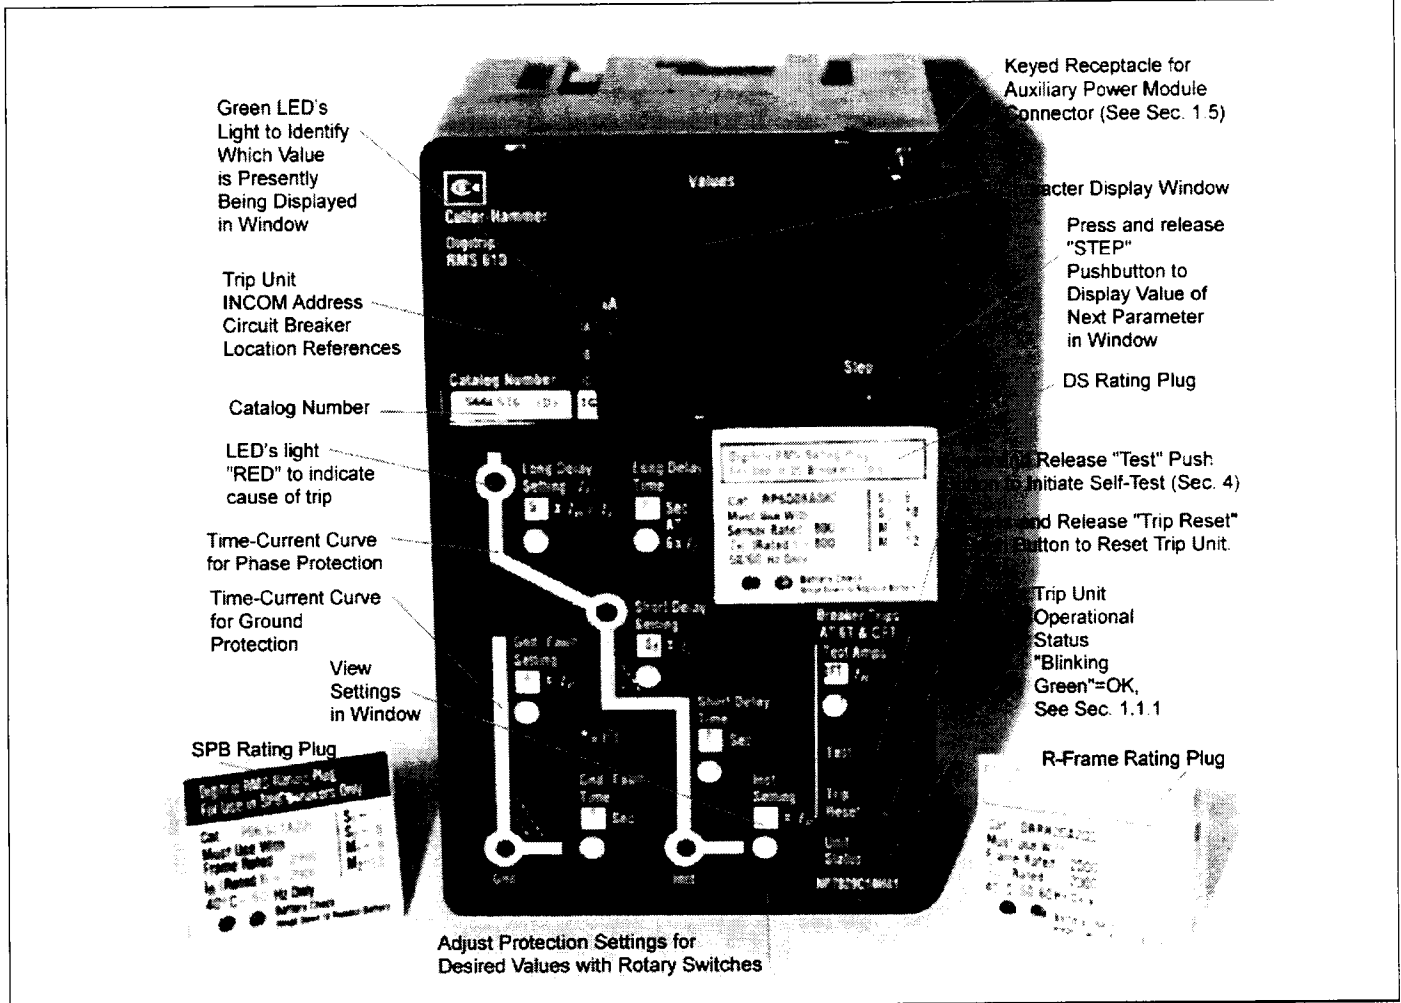

Fig. 1 Digitrip RMS 610 Trip Unit Type LSIG with Rating Plug
The Digitrip RMS 610, illustrated in Fig.1, is a Trip Unit, suitable for use in types DS and DSL Low-Voltage AC power circuit breakers and type SPB Systems Pow-R circuit breakers and Series C R-Frame molded case circuit breakers. The Digitrip RMS 610 Trip Unit provides four basic functions:
The "Green" Light Emitting Diode (LED) in the lower right corner of the Trip Unit (Fig. 1) "blinks" once each second to indicate the Trip Unit is operating normally.
The LEDs, shown in Figs. 1 and 3.1 thru 3.6 on the face of the Trip Unit, light "RED" to indicate the reason for any automatic trip operation. As indicated in Figs. 3.1-3.6, each LED is strategically located in the related segment of the time-current curve depicted on the face of the Trip Unit. The reason for trip is identified by the segment of the time-current curve where the LED is lighted "RED", and shown by the "code" in the Display. Following an automatic protection trip operation, the external control power to the Power/Relay Module (See Section 1.4) will maintain the LED "RED" and will **continue** to send a **TRIP** signal to **LOCKOUT** the circuit breaker until the Trip Unit is **RESET**. The Digitrip RMS 610 Trip Unit can be **RESET** by pressing and releasing the "**TRIP RESET**" button. (See Fig. 1 lower right corner just above the "UNIT STATUS" LED.)
In the event that control power is lost, the back-up battery in the Rating Plug (See Section 1.3 and Figs. 1 and 4) continues to supply power to the LEDs. To check the status of the battery, see Section 4.5.
Press and release the "**TRIP RESET**" push-button shown in Fig. 1, to turn "Off" the LEDs following a trip operation.
**AFTER EACH TRIP OPERATION THE AUTOMATIC LOCKOUT AFTER-TRIP FEATURE OF THE DIGITRIP RMS 610 TRIP UNIT MAINTAINS THE CIRCUIT BREAKER IN A “TRIP-FREE” CONDITION, PROVIDED 120 VAC CONTROL POWER REMAINS AVAILABLE TO THE POWER / RELAY MODULE. THE TRIP UNIT MUST BE RESET, BEFORE THE CIRCUIT BREAKER CAN BE CLOSED AGAIN. THE RESET CAN BE ACCOMPLISHED BY PRESSING AND RELEASING THE “TRIP RESET” PUSH BUTTON. (SEE FIG. 1.)**